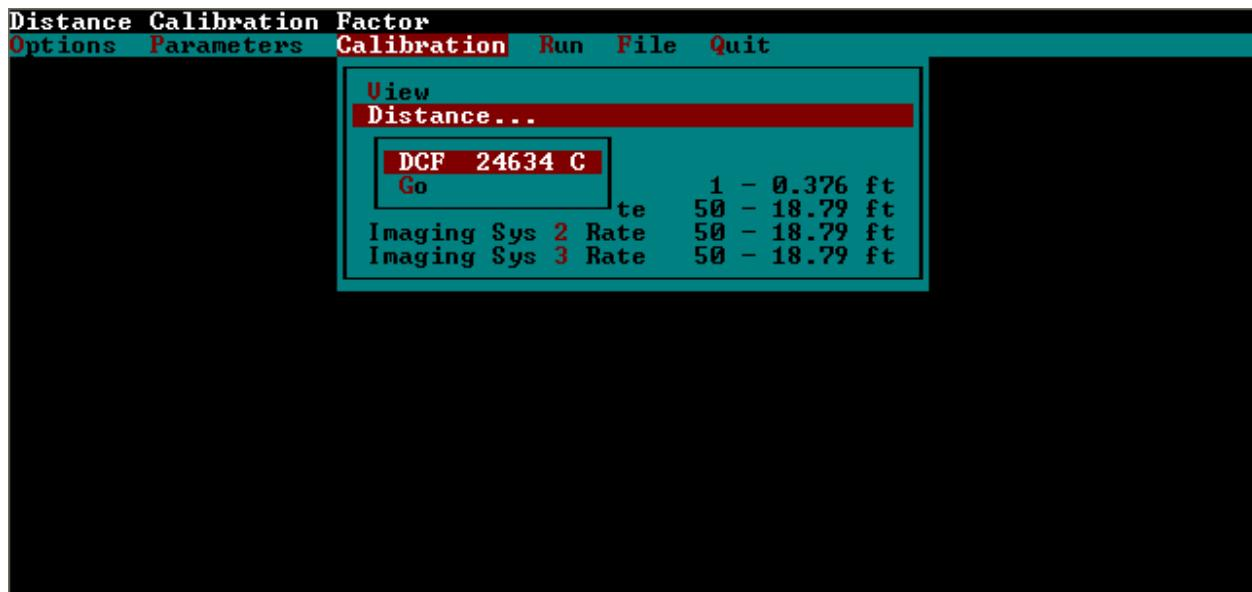

Figure 3-9. MDR Software Distance Calibration Menu.
3. In the MDR main menu, choose 'Calibration' to bring up the Calibration Menu and then highlight 'Distance' and press 'Enter' key as shown in Figure 3-9. The screen will display the current DCF. The DCF is a maximum of five (5) numbers followed by a letter. The letter represents the following: